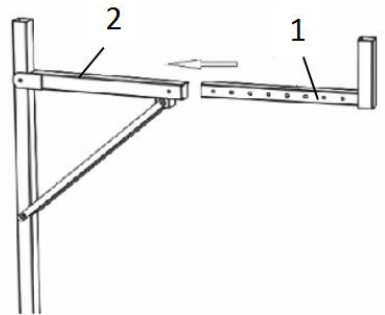

figure 4
- B. Slide extended cross bar (1) into end of cross bar (2) and secure in place with bolt(4), washer(5), and lock nut(6) at suitable position, the extended cross bar (1) length can be adjustable.Show as figure 4.